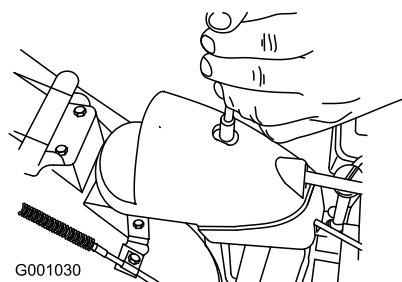

Figure 55
1. Remove the fastener on the gear cover (Figure 55), lift the front of the cover up, and slide it back and out of the way.